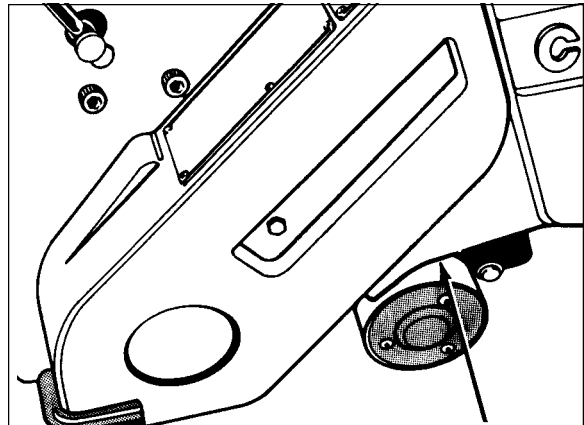

Figure 3
4. Grasp the belt guard immediately above the left hand truck wheel and pull to gain access to the drive belts. Remove the drive belts. See figure 3.